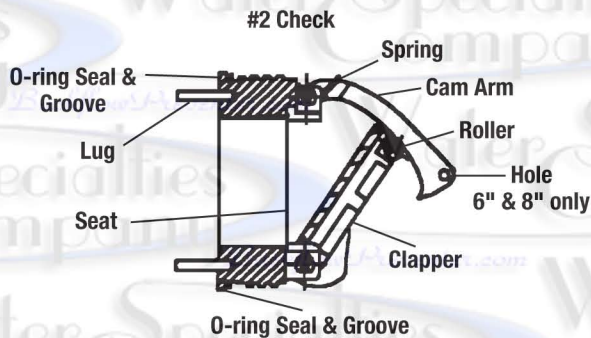

Figure 2
Slowly pull the assembly outward to open check allowing exposure of the seat and clapper contact area for cleaning. To clean #2 Check, lift Check Arm and hold in open position. Raise clapper so that the end of the Check Arm rests between roller and clapper (Figure 2). Thoroughly clean the seat area and clapper sealing surfaces of both Checks. Inspect seats, clapper sealing surfaces, Check Arms, and O-rings for damage. If not damaged gently close the clapper. If damaged, install a new Check assembly and/or O-ring.
#1 Cam-Check Figure 2
2. **#1 Check (Fig.2)** Using a $\frac{1}{16}$ " socket wrench or nut driver, remove the four nuts from the #1 check studs (See fig. 1) Using two hands, place them at 12 o'clock and 6 o'clock, wiggle the check assembly free. Remove through access port with back of clapper first with back of clapper first with spring end down. Pull check assembly out of main body.